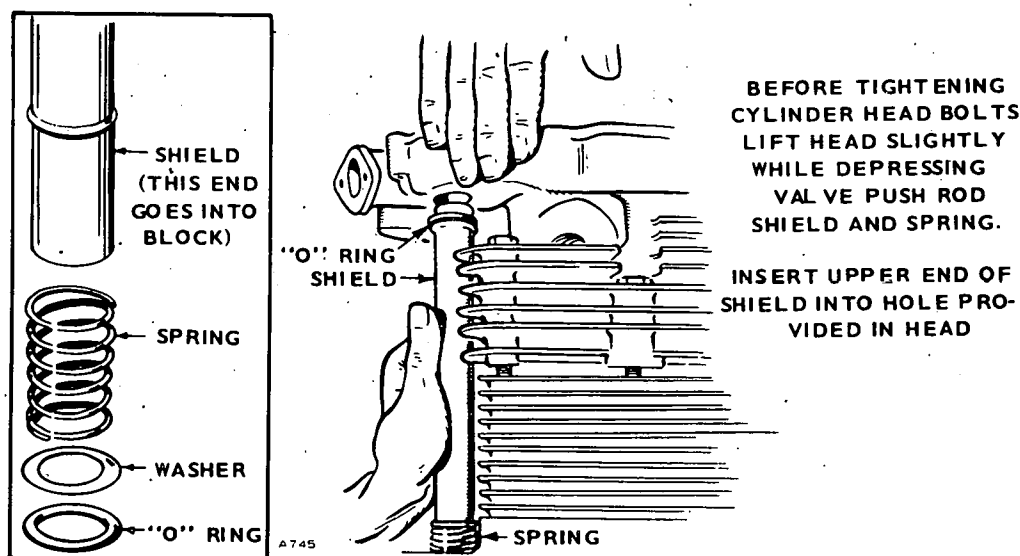

FIGURE 47. INSTALLING PUSH ROD SHIELD
6. Before tightening the cylinder head, install the push rod shield as shown in Figure 47.